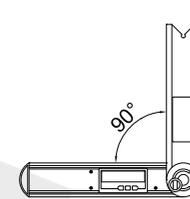
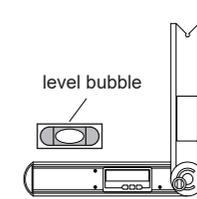

fig.5
fig.6
- b. Check vertical: Set the angle 90° (Fig.5), check the vertical follow the Fig.6.